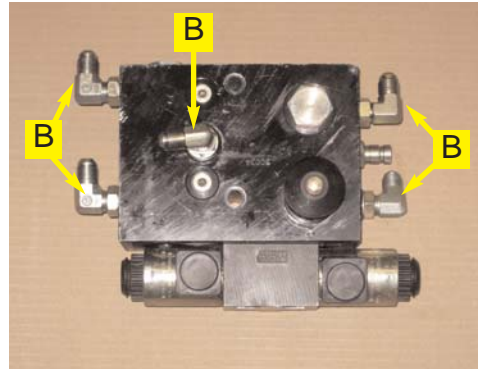

Figure 1. Prepared automated steering block.
- b. Install the small elbow adapter fitting (**B**) in the **LS**, **A**, **B**, **P** and **T** ports. (Figure 1.)